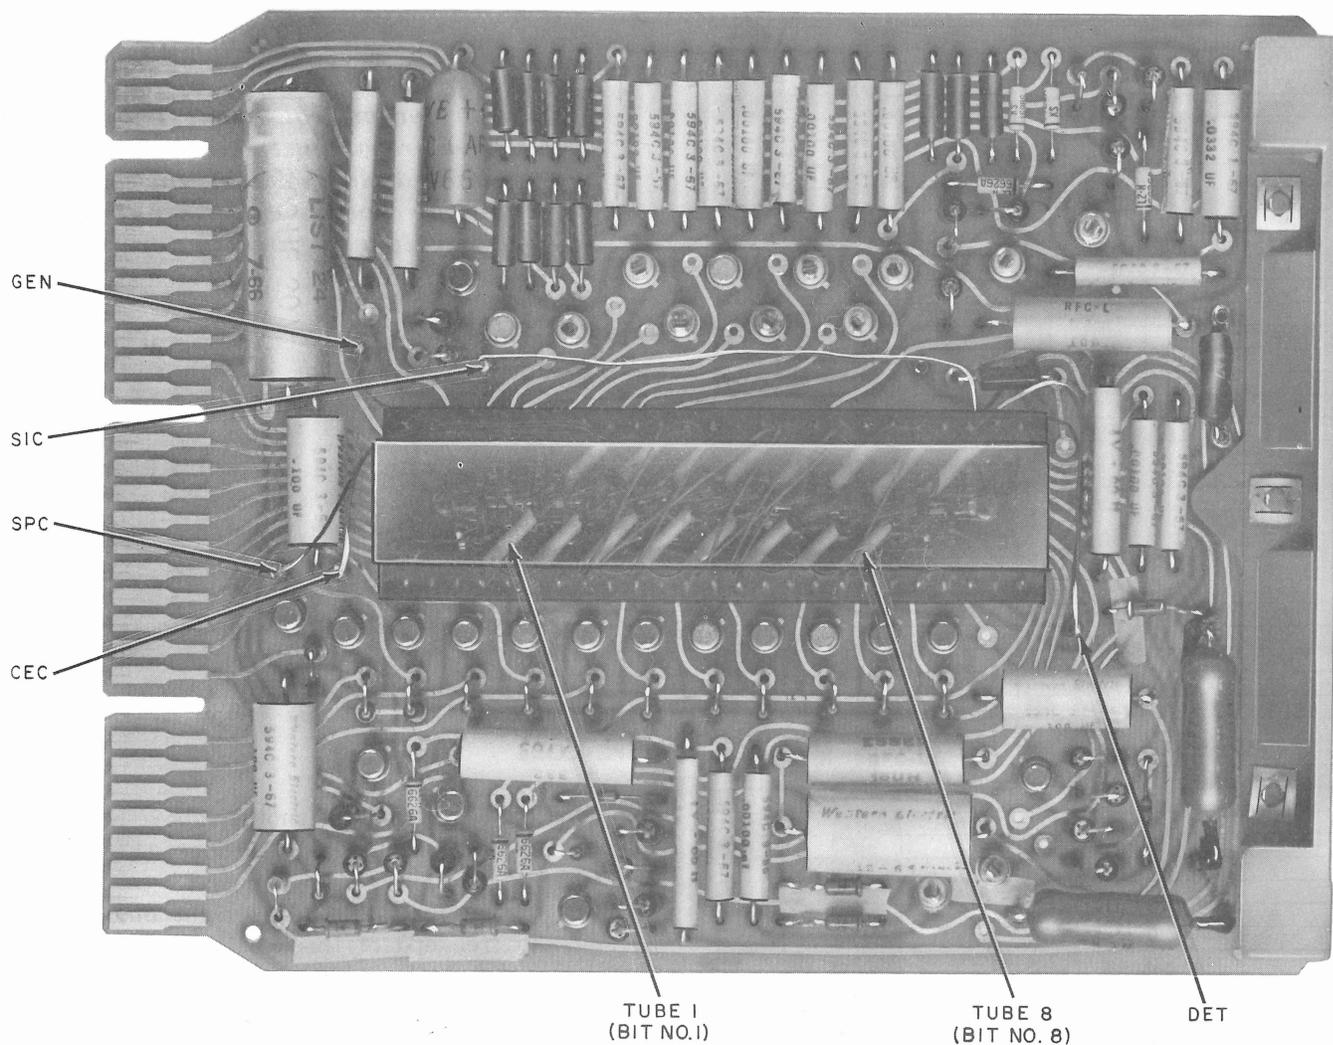

Fig. 5—CP AR37—Location of Terminals for Wiring Shift Register
2.08 Inspect shift register (Fig. 5). A properly encoded CP AR37 shift register should have *three* polyurethane insulated No. 30 to No. 36 American Wire Gauge (AWG) wires running through each of the eight tubes.
2.10 The CP AR37 should be positioned as shown in Fig. 5. It is suggested that the encoding of the shift register be performed on a flat surface properly protected.
- (4) Connect an end of one above-mentioned conductor (3) to the GEN terminal (Fig. 5).
- (6) At the completion of threading, remove the excess length of wire and connect the free end of this conductor to the SIC terminal (Fig. 5).
- (7) Connect one end of another above-mentioned conductor to the SPC terminal (Fig. 5).
- (9) At the completion of threading, remove the excess length of wire and connect the free end of this conductor to the DET terminal (Fig. 5).
- (10) Connect one end of the last of the three mentioned conductors to the CEC terminal (Fig. 5).
- (12) At the completion of threading, remove the excess length of wire and connect the free end of this conductor to the DET terminal (Fig. 5).